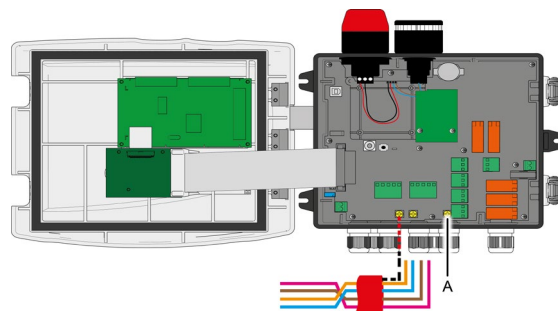

Figure 24: Ground and braid connection
**6.1.4 Grounding** The *MX32v2* meets EMC and Low Voltage Directives requirements. In order to fully comply with the class of protection, it is absolutely necessary to connect the ground terminal to the Earth of the site (Figure 24, A). Moreover, the cable braids of the digital and analog lines shall also be connected to this ground terminal.